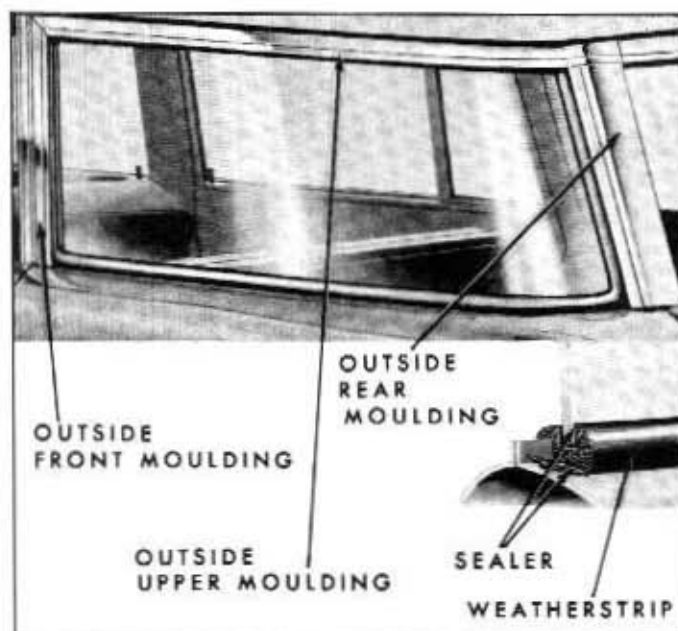

Fig. 13H-1—Stationary Window—(60C-8021)
2. Remove the outside rear pillar moulding assembly. See figure 13H-1.